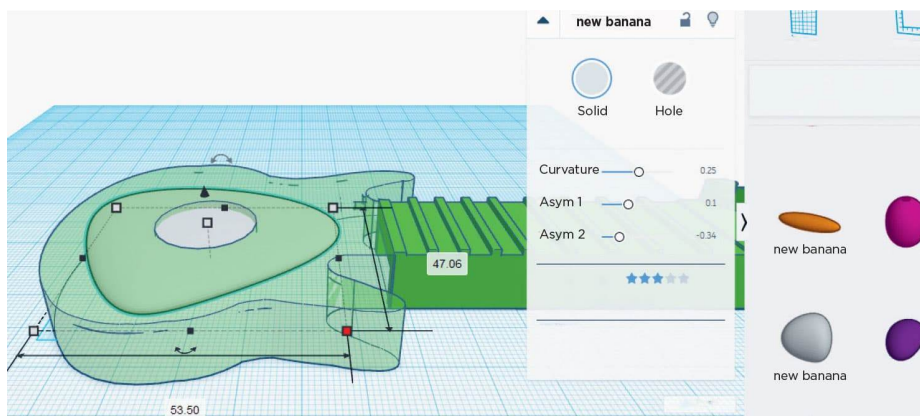

FIG. 6: Hollow out the guitar body using the **New Banana** tool.
4. The guitar body is currently a solid object with a hole in the center. However, to improve the sound quality it needs to be hollowed out. We will use a **New Banana** tool from the **Shape Generator—All** toolbox. This shape when converted to a hole (instead of solid) helps to hollow out the guitar body while minimizing overhangs for the 3D-printing process. Fig. 6 shows the new banana hole shape embedded in the transparent guitar body. Ensure that the top and bottom faces of the guitar body are always 2 mm thick, except at the point of the sound hole.